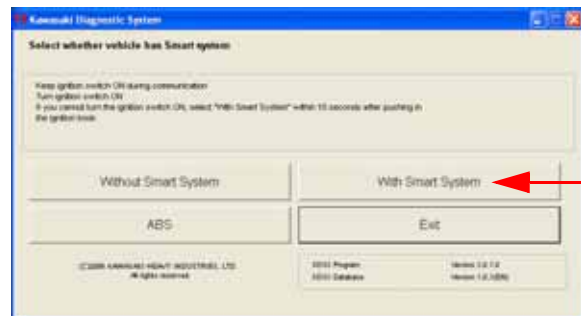

Fig. 5-54 KDS Main Menu
- o *Depress the steering lock switch (do not turn switch). Select **With Smart System** within 10 seconds (Fig. 5-54).*